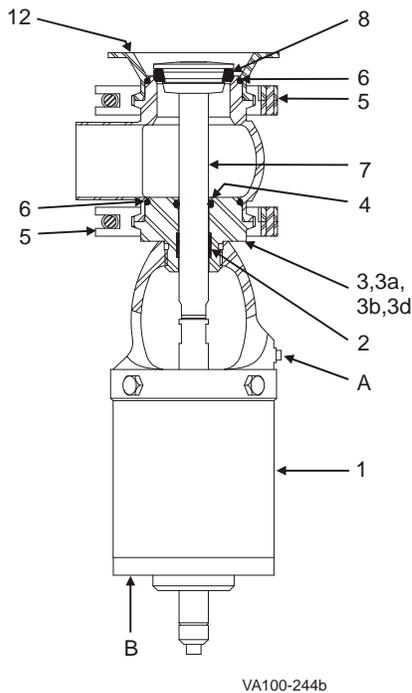

Figure 19: W64/W84 Tank Outlet Valve
1. Screw the adapter (Figure 19, item 3) onto the yoke.
2. Install the body O-ring (item 6), stem O-ring (item 4), and PTFE bearing (item 2).
3. Assemble the upper body to the adapter; secure it with the upper body clamp (item 5).
4. Using 5/8-inch torque wrench flats on the stem, install the valve stem (item 7). Torque to 380 in/lbs.
5. Install the lower body O-ring (item 6) onto the body.
6. Insert the valve into the tank flange and tighten the body clamp (item 5).
5. Using 5/8-inch torque wrench flats on the stem, install the valve stem (item 7). Torque to 380 in/lbs.
7. Install the lower body O-ring (item 6) onto the body.
8. Insert the valve into the tank flange and tighten the body clamp (item 5).